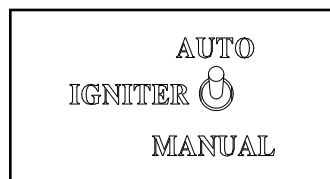
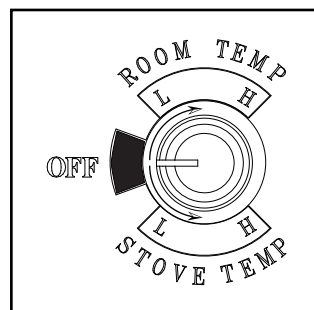

Figure 4.4
Figure 4.5
4. Flip toggle switch to desired mode “auto or manual”. Figure 4.4. Set feed adjuster knob to desired setting and turn mode dial to “Room Temp” or “Stove Temp” Figure 4.5.